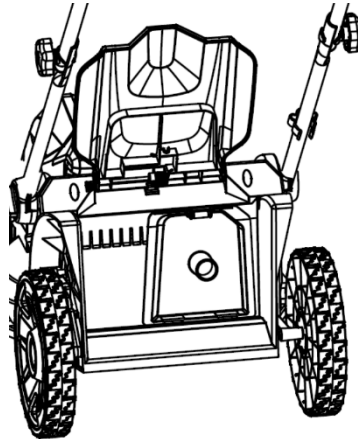

Fig. 8B
2. Push the mulching wedge into the deck. (Fig.8B)